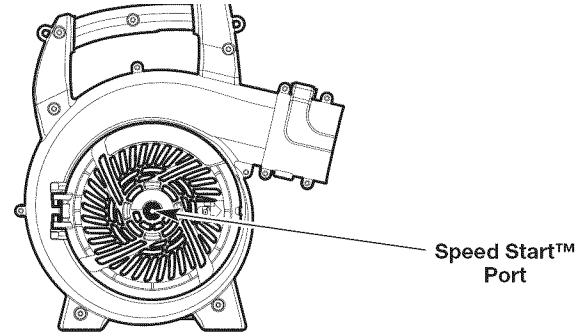

Fig. 14
7. **DO NOT** squeeze the throttle control. Insert the Speed Start™ accessory into the Speed Start™ port (Fig. 14). Refer to the *Operation* section of the Speed Start™ accessory operator's manual.